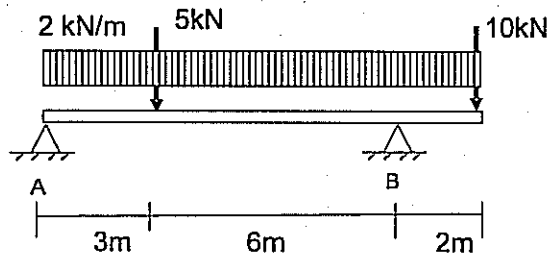

Figure Q1.
1. A simply supported beam is shown in Figure Q1.